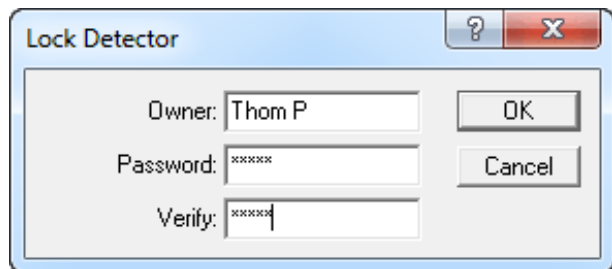

Fig. 72. Enter Owner and Password to Lock a Detector.
- **Locking** — Select the **Lock/Unlock** command to display the dialog shown in Fig. 72. Enter the **Owner** name. Then enter a password in the **Password** field, and re-enter it in the **Verify** field (the two entries must agree). Click on **OK**. The password is not case-sensitive (that is, uppercase and lowercase letters are treated the same).